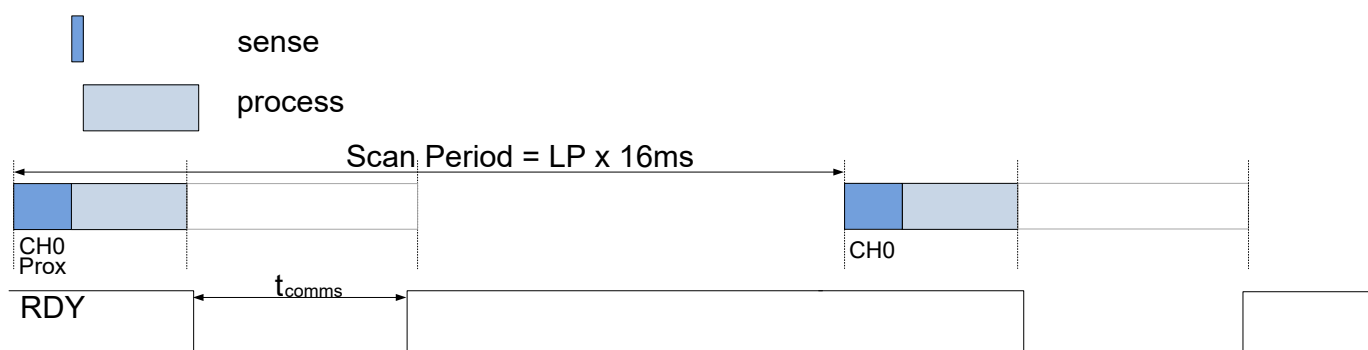

Figure 6.1 IQS263B Charge Cycle Timing in Low Power Mode.
NOTE: While in any power mode the device will zoom to Boost Power (BP) mode whenever the condition $(CS - LTA)^1 > PROX_TH$ or $TOUCH_TH$ holds, indicating a possible proximity or touch event. This improves the response time. The device will remain in BP mode for 4 seconds and then return to the selected power mode. The Zoom function allows reliable detection of events with counts being produced at the BP rate. The LP charge cycle timing is illustrated in **Figure 6.1**.